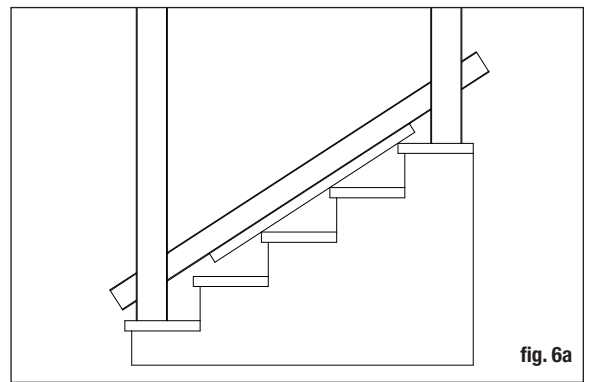

fig. 6a
**Step 4** Measure the distance between installed post sleeves to determine the length of the top and bottom rails. Determine the space desired between bottom rail and step treads. Check building code requirements for maximum spacing on a staircase, typically less than 6". A 6" ball cannot pass through the triangle formed by the bottom rail, tread and riser (refer to fig. 11). Lay bottom rail on stairs using a spacer laid across multiple treads (fig. 6a). The distance between the post and first baluster should be less than 4" and equal on both ends. Add an additional baluster on one end if the 4"